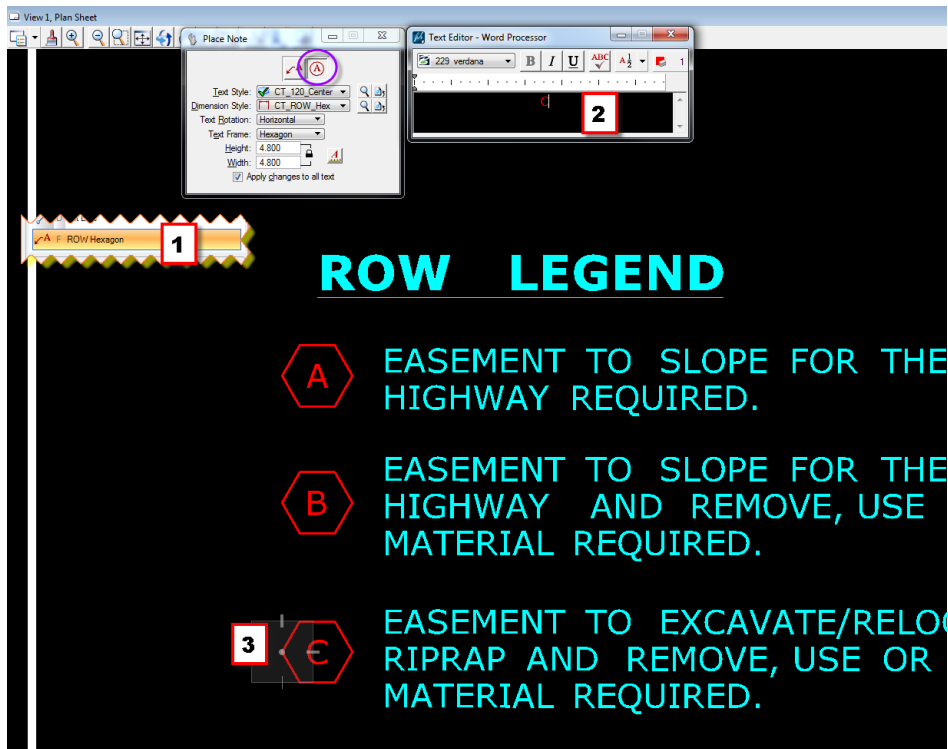

Figure 97 - ROW Hexagon at ROW legend
- Repeat steps 1, 2 and 3, but place the hexagon at the legend with the corresponding right or easement note. See Figure 97